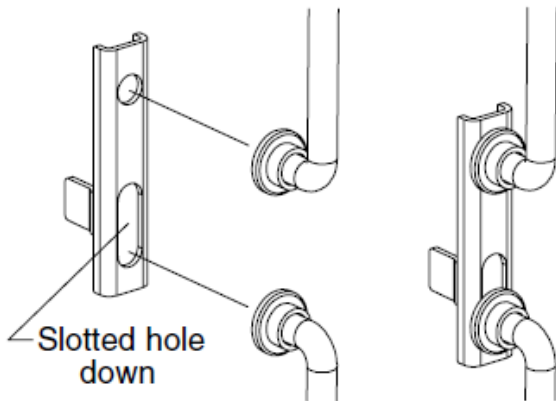

Figure 3-1
3.1. Position traveler as shown (Figure 3-1) and place over rod ends.